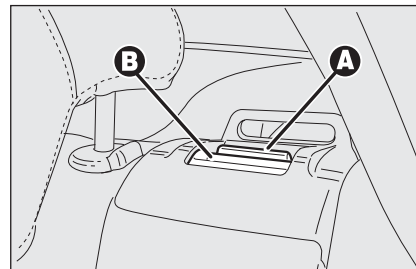

fig. 96
- lift seat back lever **A-fig. 96** and tilt the seat back forward. Lever raising is indicated by a “red band” **B**.
*Make sure the backrest is properly secured at both sides (“red bands” **B**-fig. 96 not visible) to prevent it moves forward in the event of sharp braking causing injuries to passengers.*